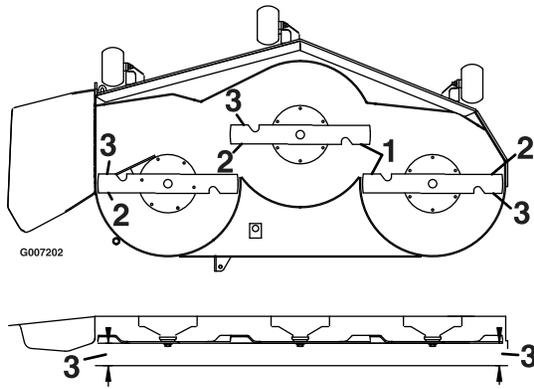

Figure 63
4. Measure between the outside cutting edges and the flat surface (Figure 63).